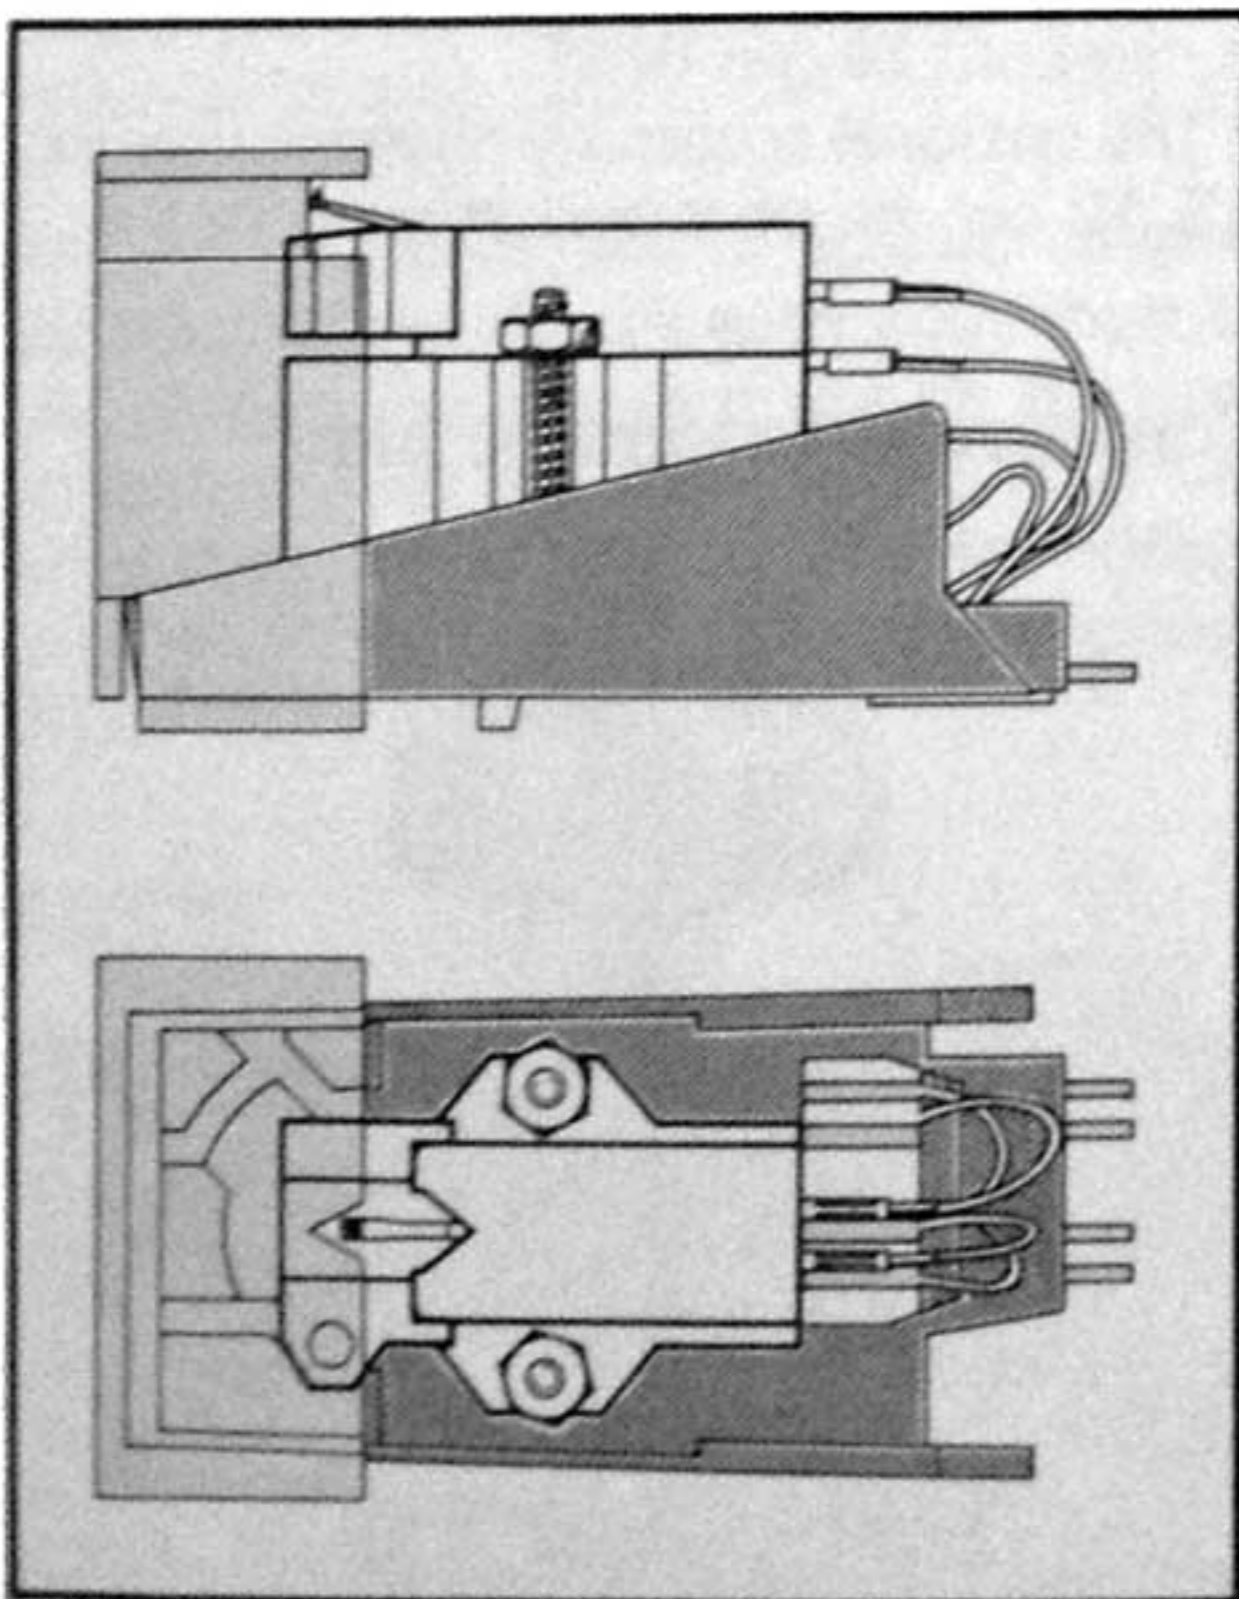

Fig. 12
1. To mount the cartridge, detach the cartridge holder ⑤ from the tonearm by pressing the tonearm lift backward ④ while holding the cartridge holder with your hand to prevent its falling down when the lock is released.
2. Using the hardware provided, mount the cartridge on the cartridge holder. Use the gauge to make sure that the cartridge is mounted in the geometrically proper place in the cartridge holder (fig. 12).